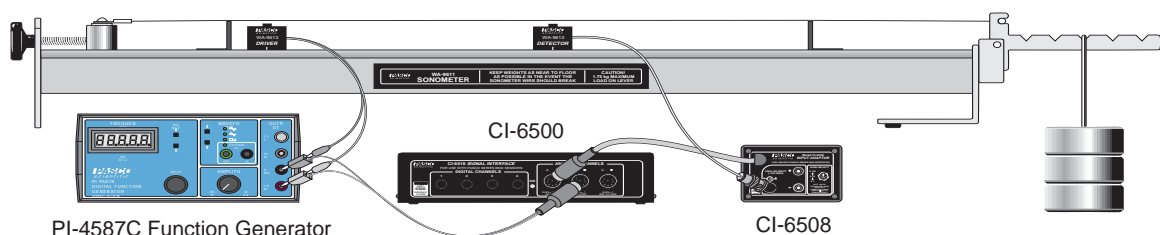

Figure 5.2 Using a Function Generator and the Series 6500
- ① Connect the BNC plug on the Sonometer Detector Coil to the BNC jack on the CI-6508 Input Adapter Box, and the DIN plug on the Adapter Box to channel A of the Series-6500. Turn the amplification select switch on the CI-6508 to 100X.
- ② If you have a CI-6503 Voltage Sensor, use it to link the function generator to channel B of the CI-6500 interface. (This step is optional; it allows you to use the function generator for triggering, with slightly improved results.) See Figure 5.2.